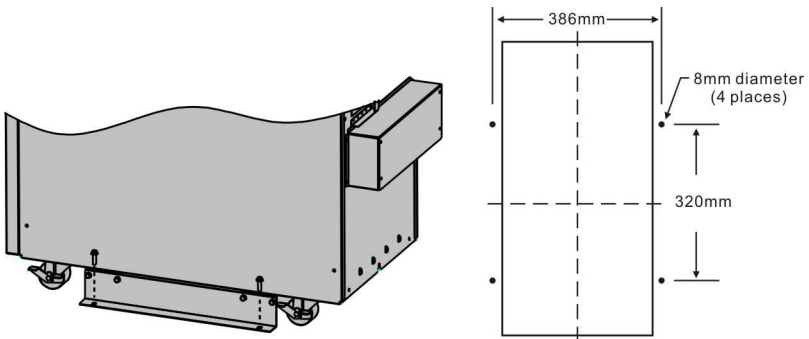

Fig. 4-5 Additional stability
- 4) Once the installation is completed, the side mounting brackets (used in shipping) shall be fixed back to ensure the stability of the UPS enclosure. If impossible, additional stability can be added by anchoring the mounting brackets to the floor with M8 bolts. See Fig. 4-5. (only for PowerWalker VFI 10000-20000 TP 3/1)